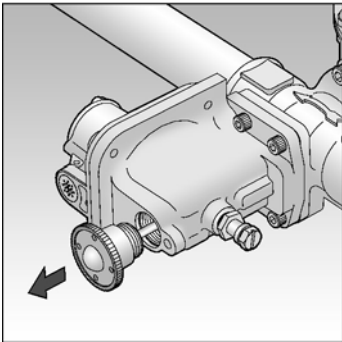

Fig. 8
17. Re-cock OPSS device by unscrewing reset spindle end cap and firmly pull. Hold in this position until the outlet pipework is fully pressurized, then release reset spindle end cap gently. Re-screw reset spindle end cap into body. See Fig. 8.
25. Re-cock UPSS device by unscrewing reset spindle end cap and firmly pull. Hold in this position until the outlet pipework is fully pressurized, then release reset spindle end cap gently. Re-screw reset spindle end cap into body. See Fig. 8.